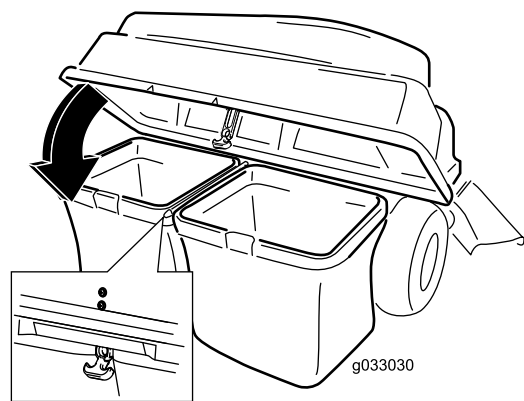

Figure 15
- Lower the bagger top onto the bags (Figure 15).
- Secure the hood with the latch (Figure 15).